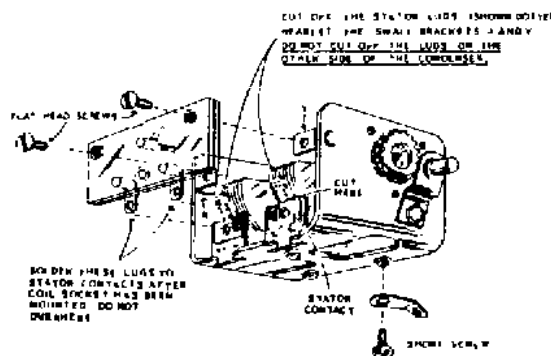

Figure 3
- ( ) Study Figure 3 and cut off the two stator lugs indicated. These lugs (shown dotted) are nearest the small brackets which are riveted to the condenser frame.
- ( ) Solder the two outside coil socket lugs to the nearby stator contact as shown in Figure 3.
- ( ) Mount the coil socket on the tuning condenser frame as shown in Figure 3. Use two 6-32 flat head screws.
- ( ) Place a length of bare wire between solder lug and unused coil socket prong (S).
- ( ) Mount another solder lug on the tuning condenser frame as shown in Figure 3. Use a short 6-32 screw.